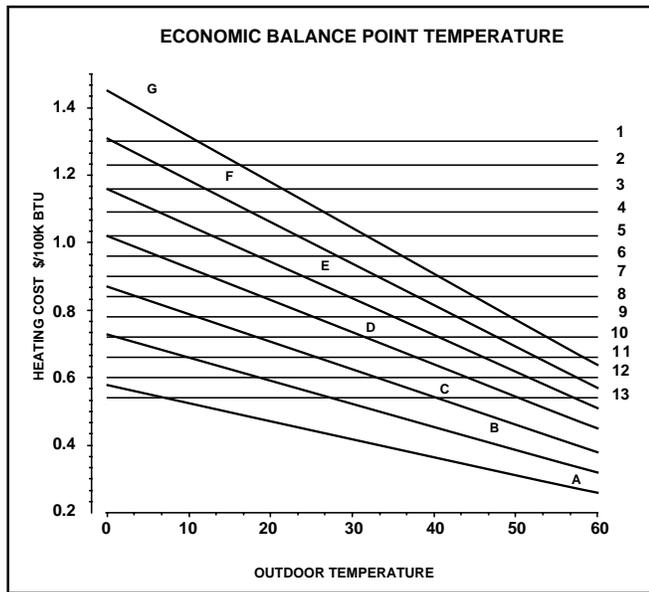

Figure 2. Economic Balance Point Temperature
1. In Table 1, move down the heat pump electric rate column to the electric rate for your area. Then follow that row to the right to either the 10 or 12 SEER column to match your heat pump efficiency. The result letter represent your heat pump's cost of operation curve presented in Figure 2.
2. Next, select your furnace type in Table 1, and move down its fuel cost column to the fuel rate for your area. Then follow that row to the right to either the 70%, 80%, or 90% AFUE column, to match your furnace efficiency. The resulting number represents your furnace's cost of operation curve presented in Figure 2.
3. Still using Figure 2, find the intersection of the two curves identified in Steps 1 and 2. Drop a straight line down from the intersection point of the two curves to the outdoor temperature scale. This is your economic balance point temperature.